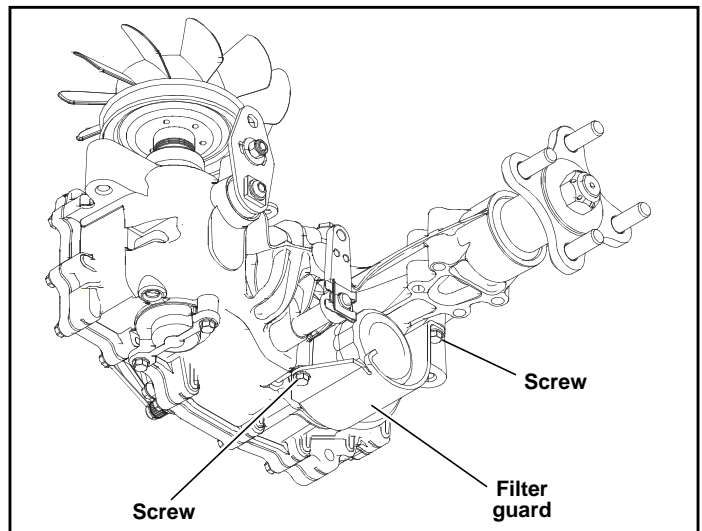

Figure 4-18
2. Remove the three 1/4" filter guard screws and filter guard. Clean any loose debris from around the filter. Figure 4-18
6. Re-install the filter guard with three 1/4" screws. Torque the screws to 65 in.-lbs. each. Figure 4-18